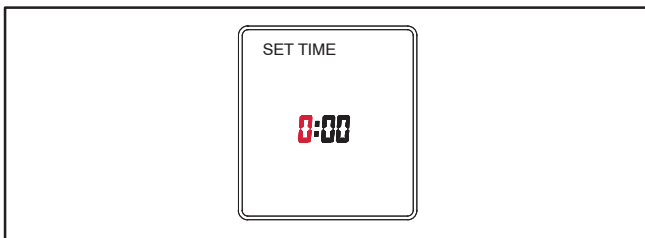

FIGURE 4. SETTING THE TIME
- 1.. With the exerciser clock powered, press the **MENU** button. Use the selector button (⤵) to select **SET TIME** which is displayed in the upper left-corner of the display (see Figure 4).